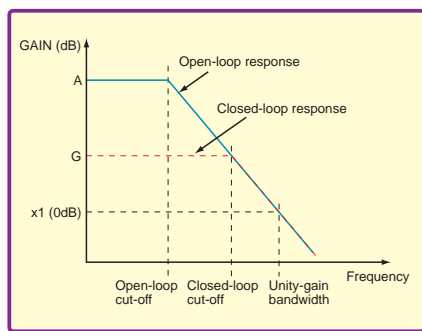

Fig.6. Typical form of the open- and closed-loop frequency responses of an op amp amplifier.
Fig.6 shows the frequency response of a typical op amp's open-loop gain and the closed-loop gain of an amplifier (eg, inverting and non-inverting amplifiers) built using the op amp. In
The closed-loop gain (G) of an op amp amplifier is set by the feedback resistors, as mentioned above, and is usually much lower than the open-loop gain. As frequency increases, the closed-loop gain remains constant at $1/\beta$ until the approximation $A = 1/\beta$ no longer holds due to the open-loop gain (A) at that frequency (and above) being too low. At these higher frequencies the closed-loop gain decreases along with the open-loop gain (see Fig.6). The cut-off frequency for the closed-loop response is typically at a much higher frequency than the cut-off frequency point of the open-loop gain.
intersects the open-loop response and starts decreasing. The straight-line nature of the open-loop response in Fig.6 means that if you multiply the closed-loop gain and closed-loop bandwidth together for any closed-loop gain you get the same value. This is called the 'gain-bandwidth product' (GBW) and is an indication of how 'high frequency' an op amp is. Fixed GBW is common for op amps, but not universal, as it depends on the form of compensation used.
Fig.6. Response curves of state-variable filter: a) (top) Low-pass, b) (middle) high-pass c) (bottom) band-pass showing different Q settings. Note the scale is 1dB per division. The whole vertical scale is 25dB.